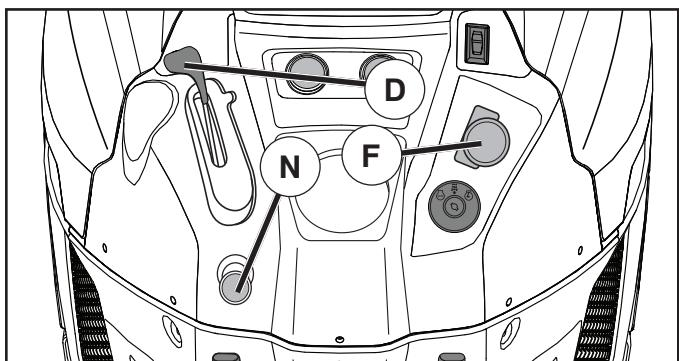

Fig. 19
- Move throttle control (D) between half and full speed (fast) position.
- Turn ignition key (F) to "STOP" position and remove key. Always remove key when leaving tractor to prevent unauthorized use.
### TO USE THROTTLE CONTROL (D) (See Fig. 19)
## TO USE CHOKE CONTROL (N) (See Fig. 19)